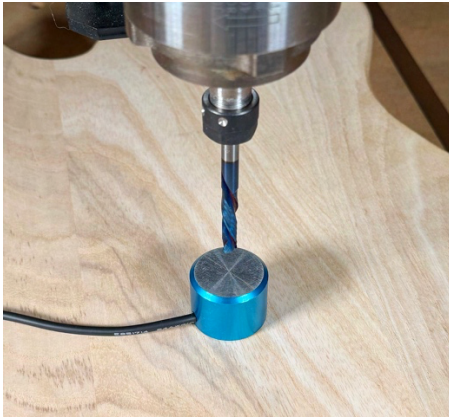

Figure 10-5
- Place the touch off puck on top of your workpiece and under the installed bit (see Figure 10-5).